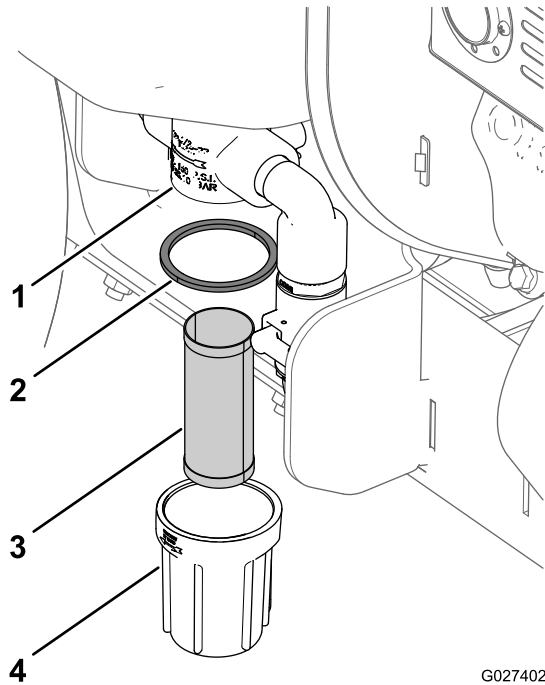

Figure 48
4. Rotate the strainer bowl counterclockwise and remove the bowl and screen from the body of the strainer (Figure 48).
7. Install the screen into the strainer body (Figure 48).
8. Install the strainer bowl onto the strainer body and hand tighten the bowl (Figure 48).